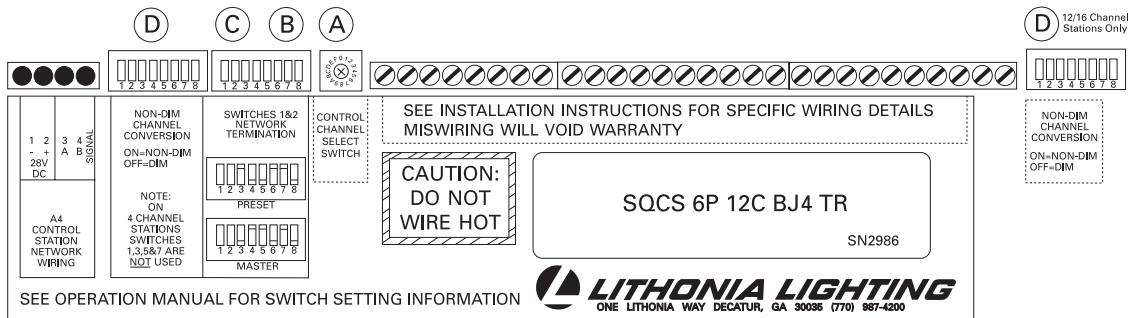

Figure 1 - Rear View of Control Station
The Sequel control station shown in *Figure 1* performs a variety of functions based on the setting of dip switches located on the back of the station. Settings for systems with a “M9” master dimmer cabinet may be obtained from the As-Built drawings (if provided) or by following the guide below. “Z9” systems must be set up as shown in the As-Built drawings.
The control channel select switch, as shown in *Figure 1* **A** selects which channels are controlled by the control station. Dimmers, or output circuits, are then assigned to control channels so the desired control functions are obtained. For information on how to assign dimmers, see page 6, “Setting Dimmer to Channel Assignments.” If multiple Sequel control stations are used, each **must** have a different control channel select switch setting as shown in Table 1. (The following are two typical examples for determining control channel select switch settings.)
The master raise and lower functions can be converted to provide two additional presets. If this operation is desired, replace the up/down arrow button caps with the LED caps provided with the control station and set positions 3 through 6 of switch bank (C)(B) (figure 1) as shown below.
As shown in Figure 6 on pages 9 and 10, the control station network cable must be run in a daisy chain (*in and out fashion*). The last station on the network must be terminated by turning on positions 1 and 2 of switch bank (C)(B) (figure 1) as shown below. Figure 6 on pages 9 and 10 also illustrates common network wiring configurations, and control network termination switch settings for each station.
A non-dim channel is used for loads that are to switch on and off only. Any or all channels can be converted to non-dim operation by turning on the corresponding position of switch bank (D) (figure 1). In eight-channel stations, the positions correspond to the channels as they appear from left to right. In four-channel stations, positions 2, 4, 6 and 8 correspond to the channels from left to right. Twelve and sixteen channel stations contain an additional bank of non-dim conversion switches that correspond to bargraph positions 9 - 16.